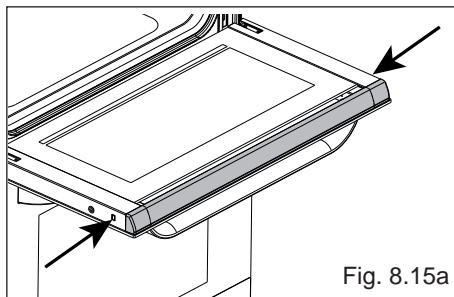
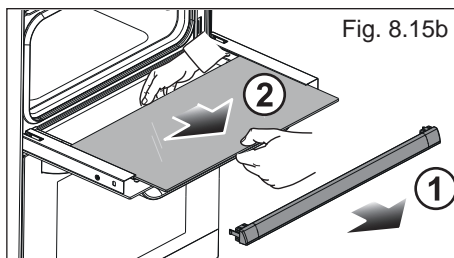

Fig. 8.15a
Fig. 8.15b
- Press the tabs on the sides of the glass retainer which is positioned at the top of the oven door (arrows in fig. 8.15a), then gently remove the retainer (arrow 1 in fig. 8.15b).
- Gently pull out the inner pane of glass (arrow 2 in fig. 8.15b).